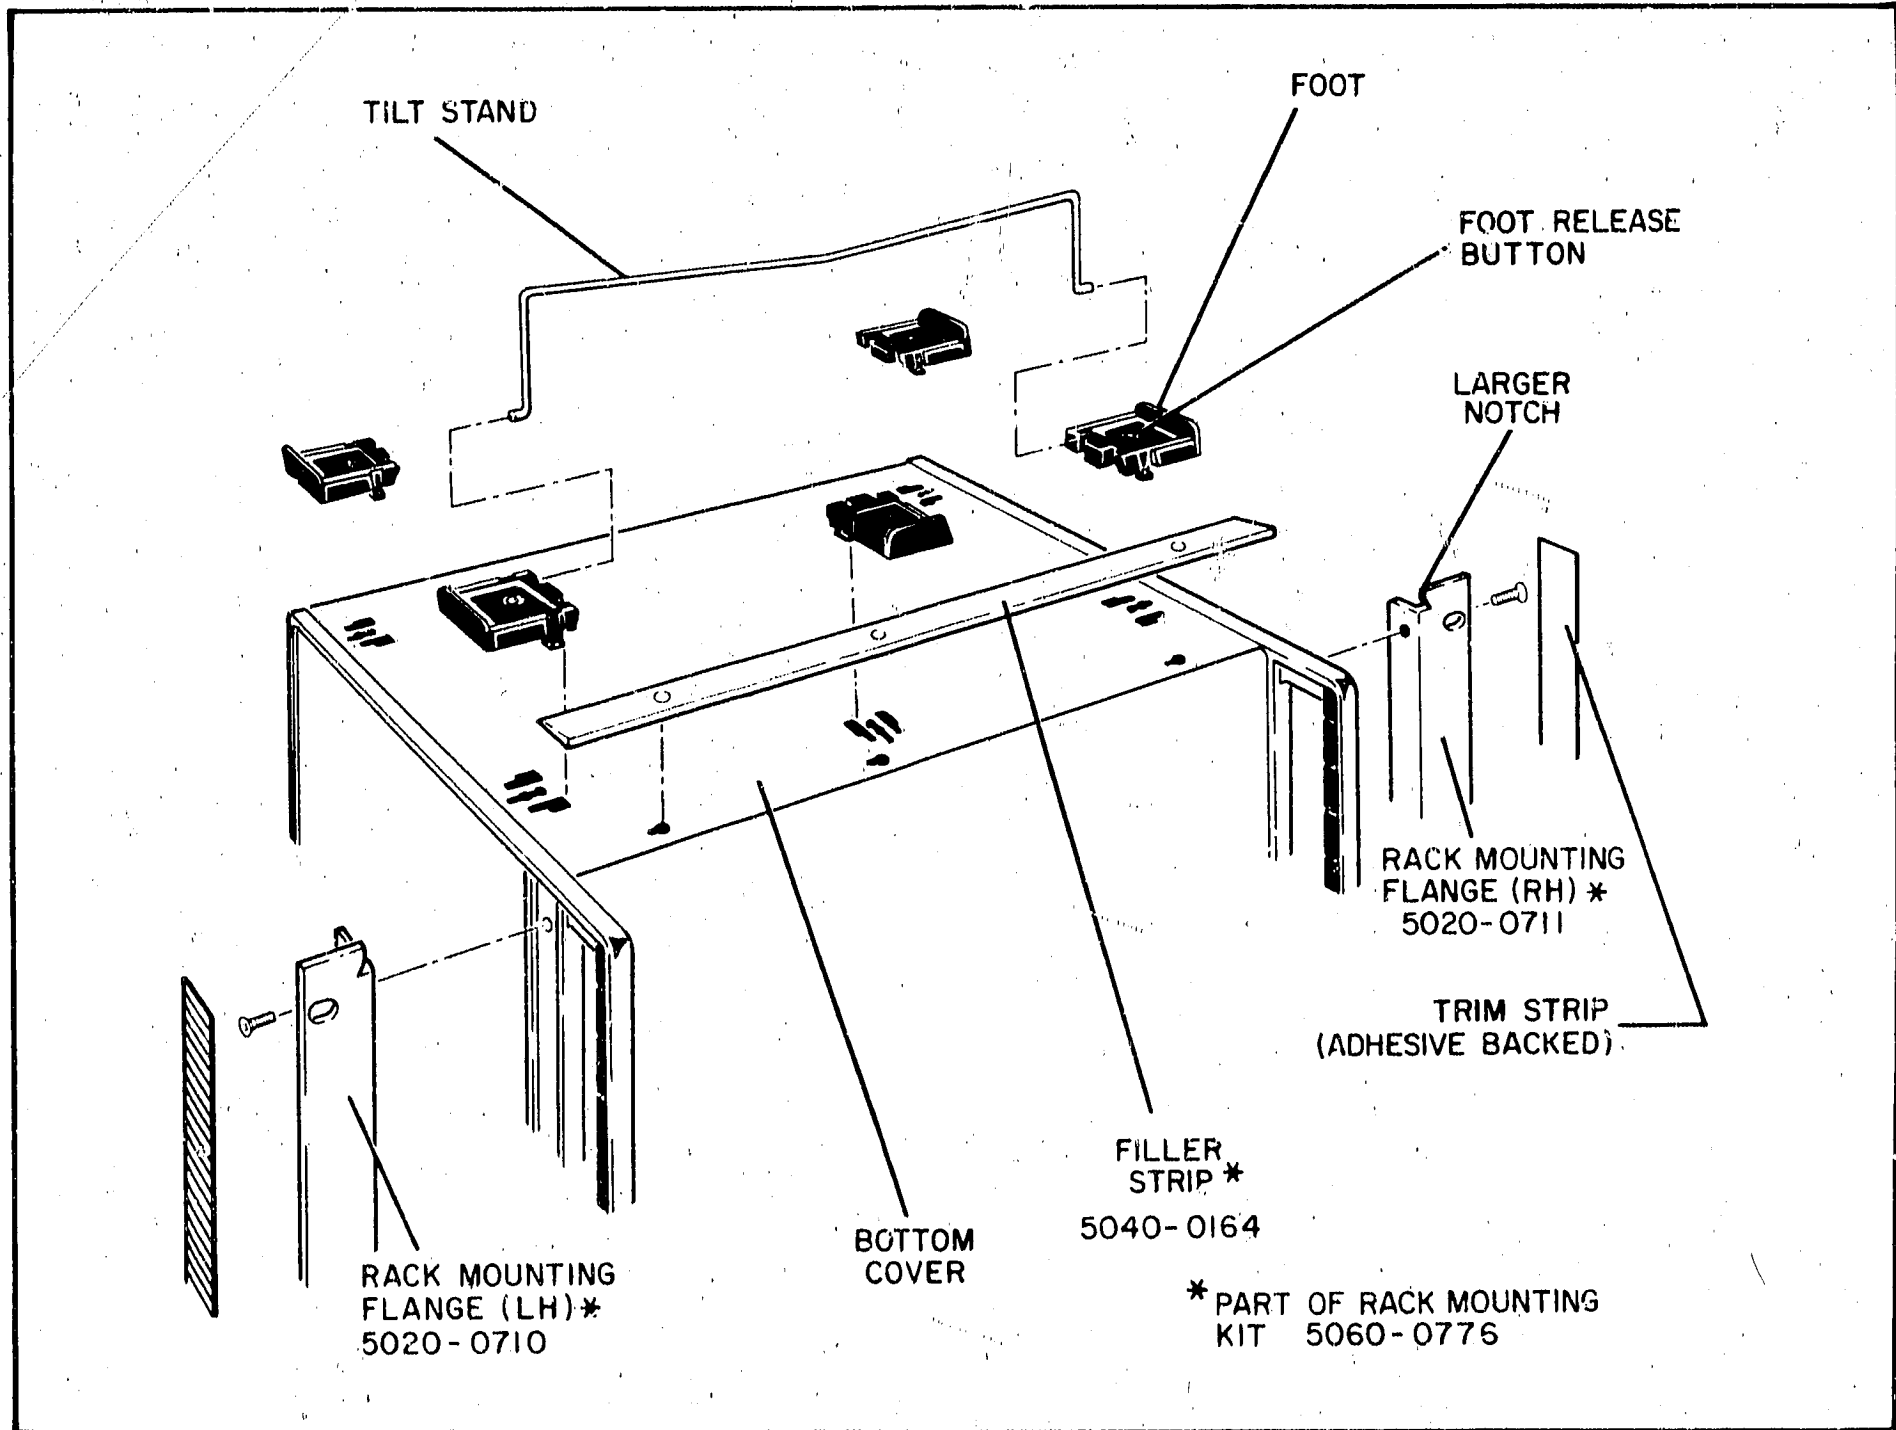

Figure 2-1. Conversion to Rack Mount
- Remove trim strip on sides of instrument (refer to Figure 2-1).